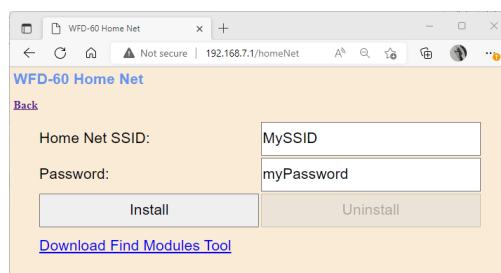

Figure 28 The Home Net page of the WFD-60. Enter the Correct SSID of your Router and its Password.
- (8) Hit the Back hyperlink to return to the Main Menu then click Home Net. Type the SSID of your home net router and its password, in Figure 28, exactly as you did for the WFS-87. Then tap Install. The WFD-60 should reset and connect to your home-net router.